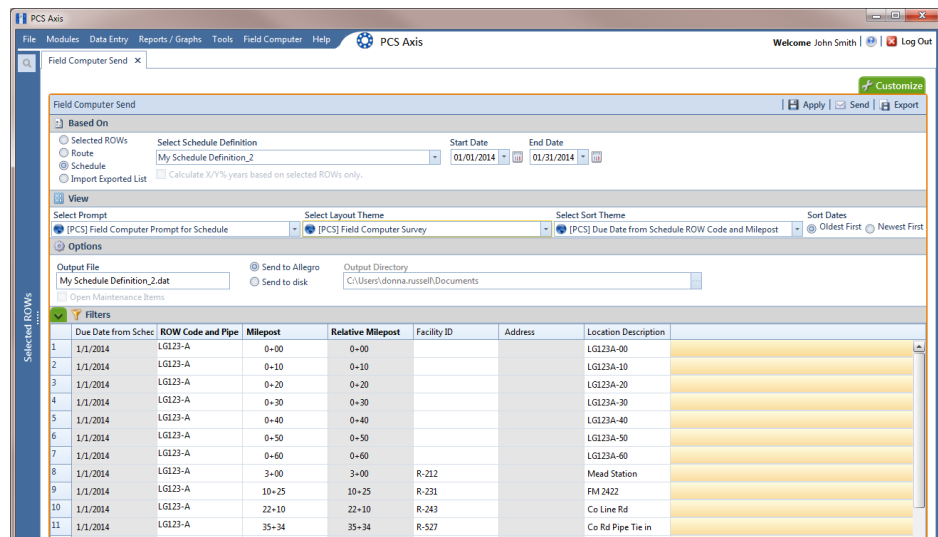

Figure 13-13. Field Computer Send Schedule
- 3 Click **Field Computer** > **Send** to open the *Field Computer Send* window (Figure 13-13, page 607).
- 4 Click the **Schedule** option (Figure 13-13). Then click the down arrow in the field **Select Schedule Definition** and select a schedule definition in the list.